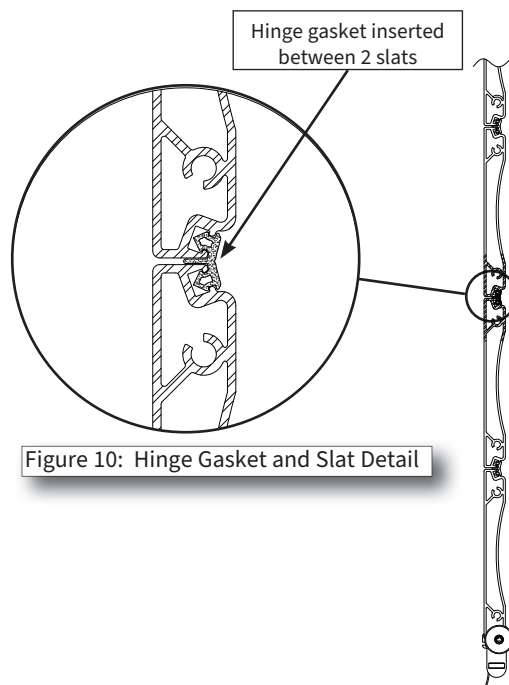

Figure 10: Hinge Gasket and Slat Detail
- 5 Find center of the slat, and the center of the hinge gasket. Start installing hinge gasket from the center of the slat, and work towards the ends in both directions. Starting at the center of slat, push the triangular ribs of the gasket into the small channels of the slat extrusions, being careful to guide the gasket rib between the slats (Figure 10).